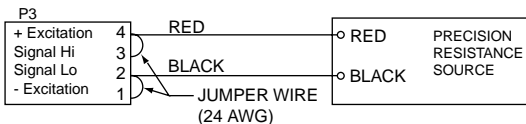

Figure 4-1. 2-Wire Configuration
2. Connect the precision resistance source to the P3 connector observing proper wiring configuration. For 3-wire connections, use pins 1, 2, 3, and 4. Refer to **Figures 4-1** through **4-3**.